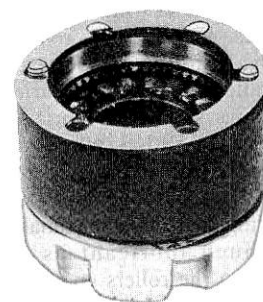

FIG. 23 Assembly Positions of Gear Hub Housing and Gaskets
9. Install a new outer retainer gasket. Assemble gear hub housing by aligning the splines of the housing with those of the outer clutch gear as shown. Assemble a new inner (metal) gasket on hub housing (Fig. 23).